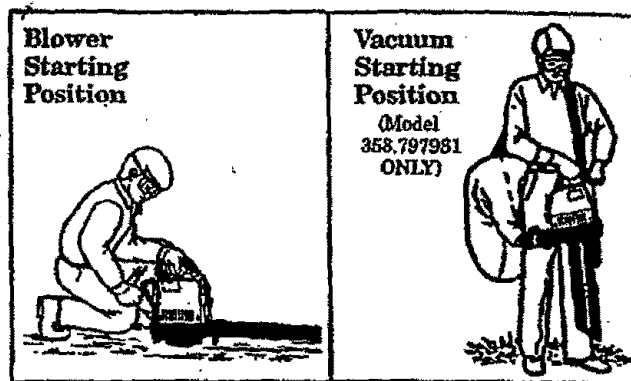

Figure 10
When starting engine, hold the unit as shown in Figure 10. Do not set the unit on any surface except a clean, hard area while the engine is running. Debris such as gravel, sand, dust, grass, etc. could be picked up by the air intake and thrown out through the discharge opening, damaging the unit or property or causing serious injury to bystanders or operator.
- Hold the unit in the starting position as shown in Figure 10. When using the unit as a blower, make sure the blower end is directed away from people, animals, glass, and solid objects. When using the unit as a vacuum, make sure